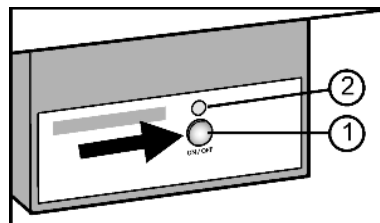

Fig. 7
- ▶ Press On/Off button *Fig. 7 (1)* so that the LED *Fig. 7 (2)* lights up.